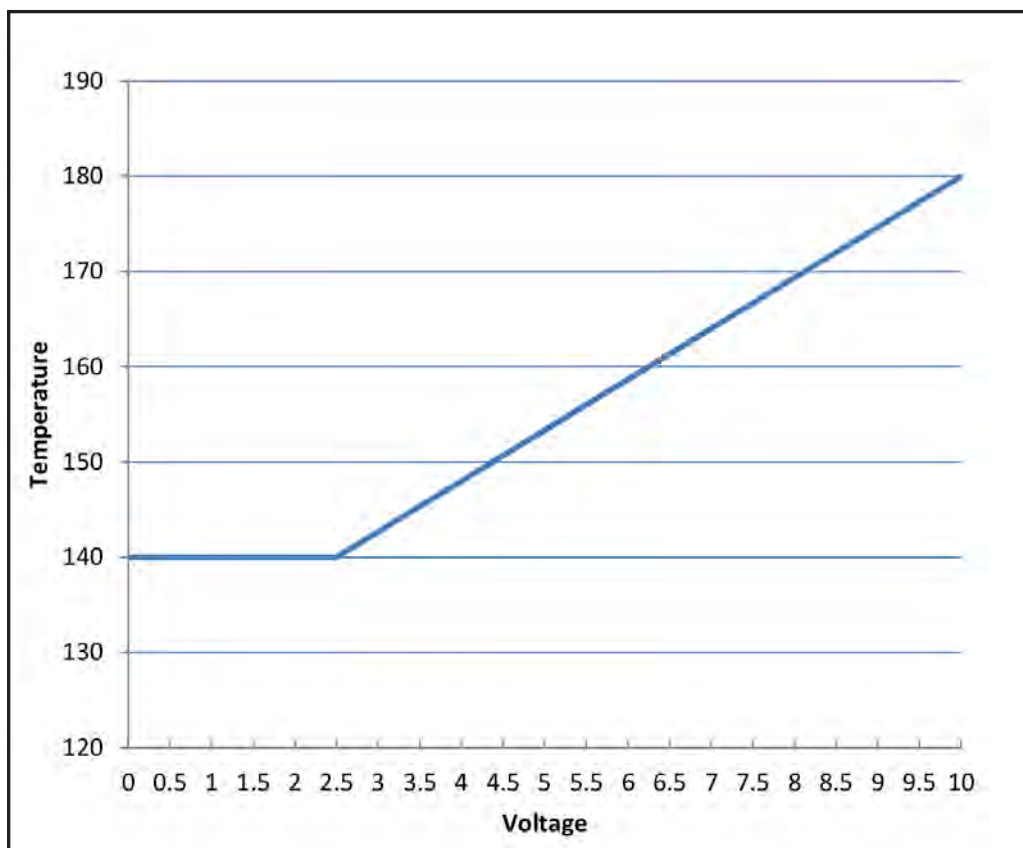

Figure 47. External Set Point Example
- Using the default values for Boiler Max Set Point (180°F), Boiler Min Set Point (140°F), Demand Minimum (2.5VDC), Demand Maximum (10.0VDC), the unit will linearize the set point, as shown in **Figure 47**.